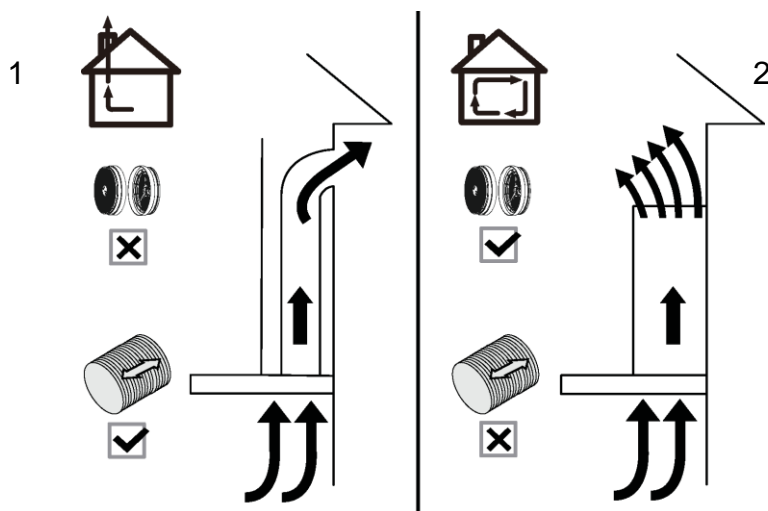

Fig. 1
a) Operations mode. (see Fig. 1)